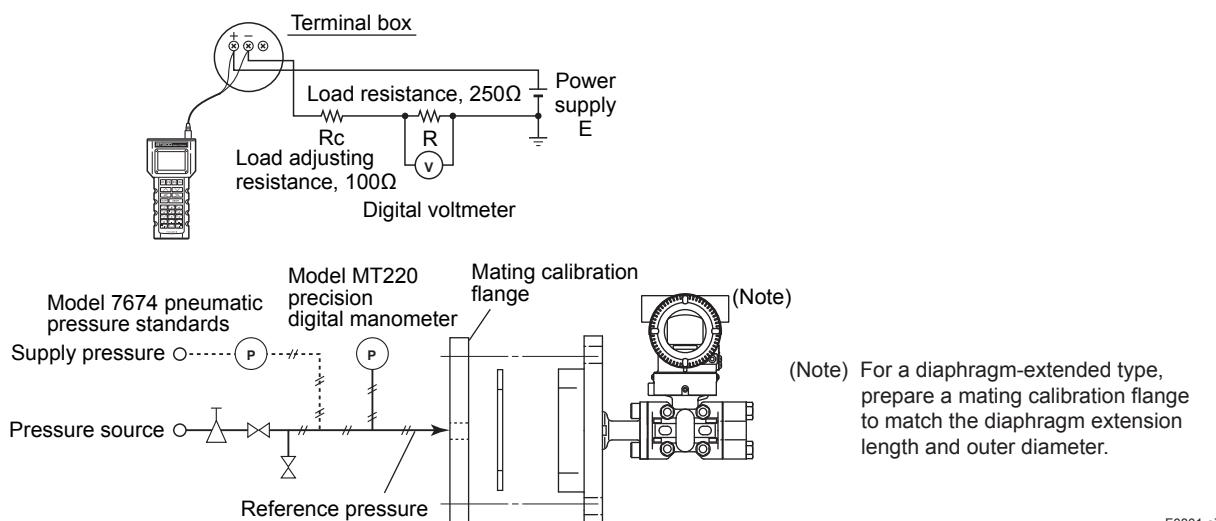

Figure 8.1 Instrument Connections (4 to 20 mA output)
- 1) Connect the transmitter and apparatus as shown in Figure 8.1 and warm it up for at least five minutes.
- Connect the instruments as shown in figure 8.1 and warm up the instruments for at least five minutes.